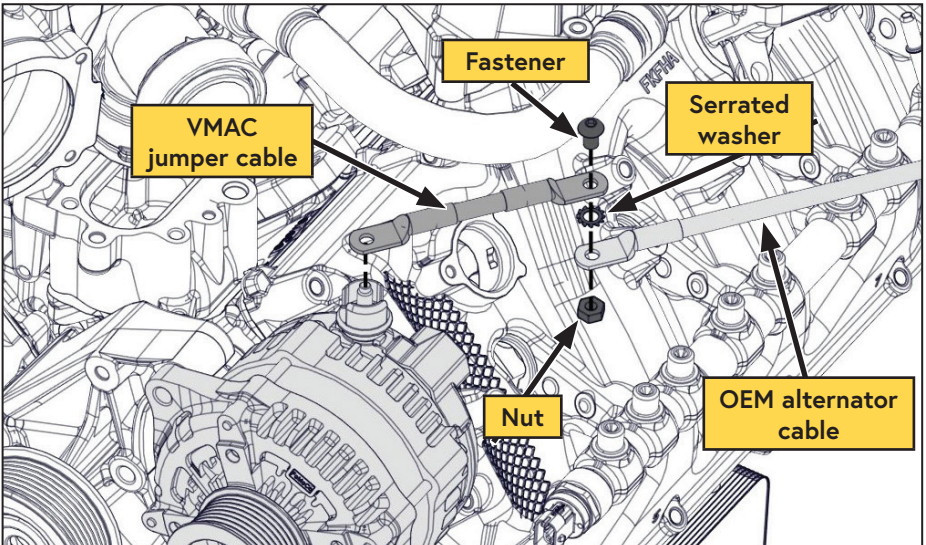

Figure 49 — Installing the cable tray
- ☐ Using the supplied jumper harness, fastener, serrated washer, and nut, connect the primary alternator wiring (Figure 49).